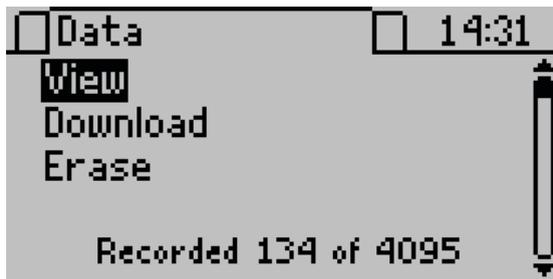

Figure 16 Data tab
1. Press **MENU** to navigate to the Data tab (Figure 16).